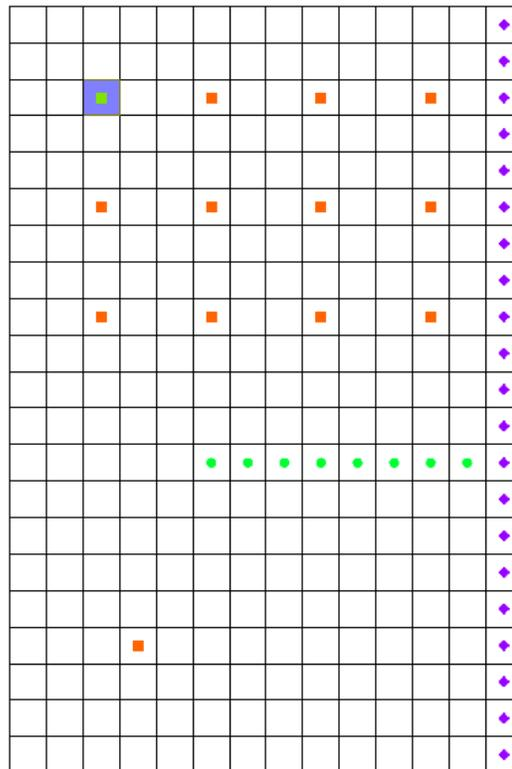

Figure 4 Selected MNW well cell (IJK: 3,3,1)
- Using the **Select Cells**  tool, select the 3D grid cell highlighted in Figure 4.
1. If necessary, re-select the grid cell selected in Figure 4 (Cell ID: 31).